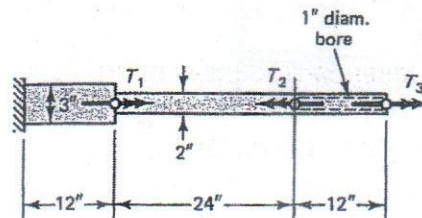

Fig. 2
- (b) A circular steel shaft of the dimensions shown in Fig. 2 is subjected to three torques: $T_1 = 28$ k-in, $T_2 = -8$ k-in, and $T_3 = 10$ k-in. (i) What is the angle of twist of the right end due to the applied torques. (ii) Plot the angle-of-twist diagram along the shaft. Let $G = 12 \times 10^6$ psi. (15)